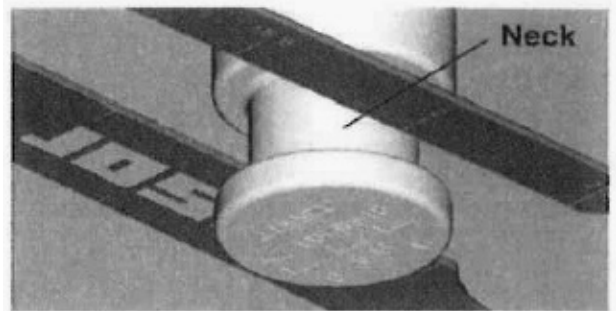

FIGURE 1
- B. Slide the gage toward the small end. The number stamped on the gage at the center of the kingpin indicates the dimension (see figure 1).